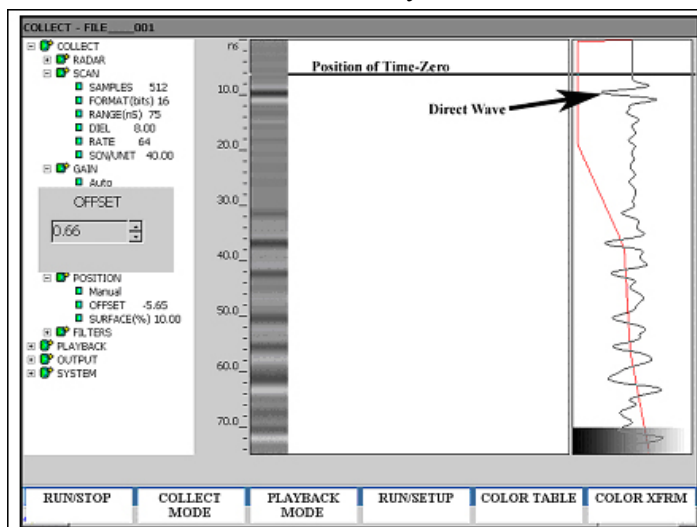

Figure 2: Manual offset adjust.
2. Highlight OFFSET and click enter to bring up the offset value dialog. You will see the full trace. Click the UP arrow and you will see a black, horizontal line on the data. Reposition this line close to the first positive (right hand side) rise of the direct wave. You should get an offset number near 0 (Figure 2). Click the Right arrow to make the change.